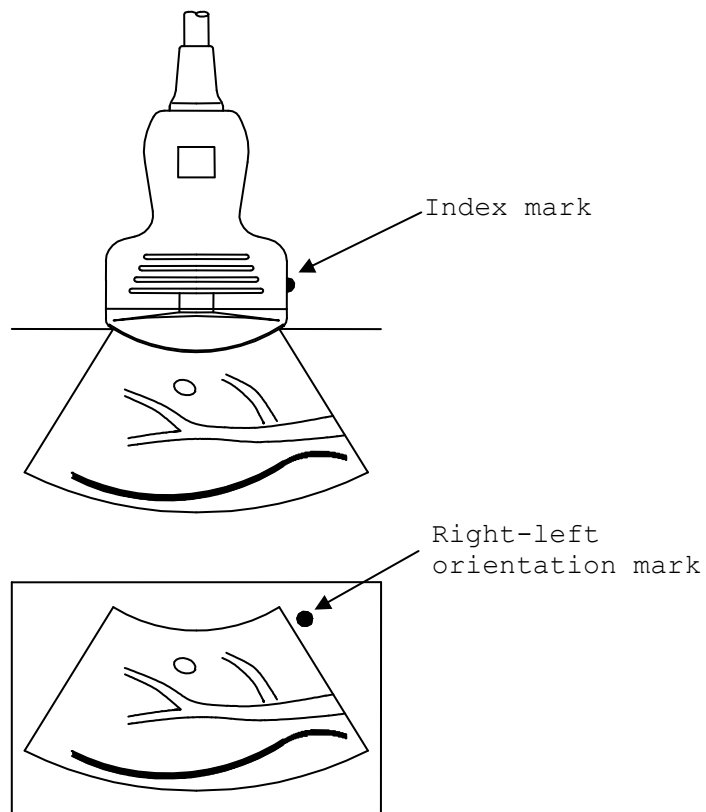

Fig. 2 Relationship between the directions of the probe and the Right-left orientation mark
- 4) Confirm the direction of the probe. The relationship between the direction of the probe and image is shown in Fig. 2.